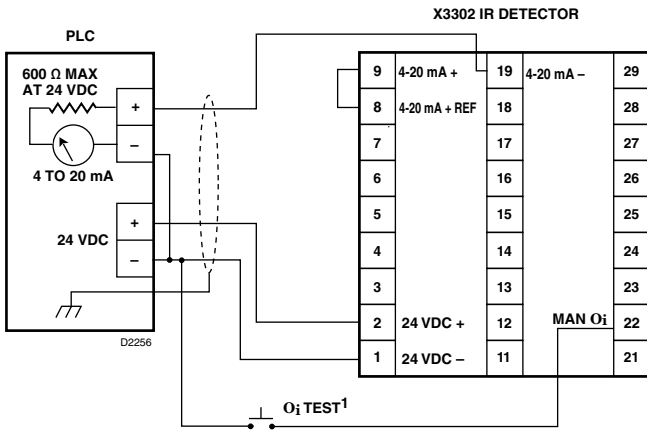

Figure 9—X3302 Detector Wired for Non-Isolated 4 to 20 mA Current Output (Sourcing)
- If the detector is equipped with a 4 to 20 mA output, refer to Figures 9 through 12.